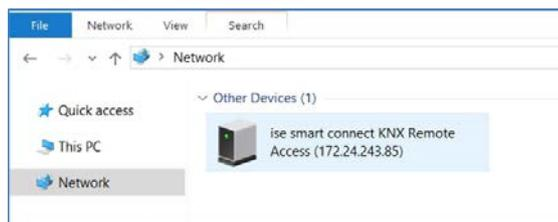

Figure 35: Calling up the device network via network environment
- Alternatively, select the device in the network environment (see Figure 35): Double click on the device icon.